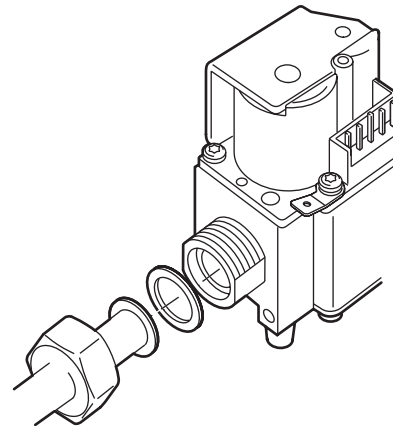

Fig. 4. External thread connection with nut and flat sealing ring
- ① With 1/2" nut and flat sealing ring for pipe 14 mm (fig. 4 .)
- ② With 1/2" nut and flat sealing ring for pipe 15 mm (fig. 4 .)
- ⑤ With $\frac{3}{4}$ " nut and flat sealing ring for pipe 15 mm (fig. 4 .)
- ⑥ With $\frac{3}{4}$ " nut and flat sealing ring for pipe 18 mm (fig. 4 .)